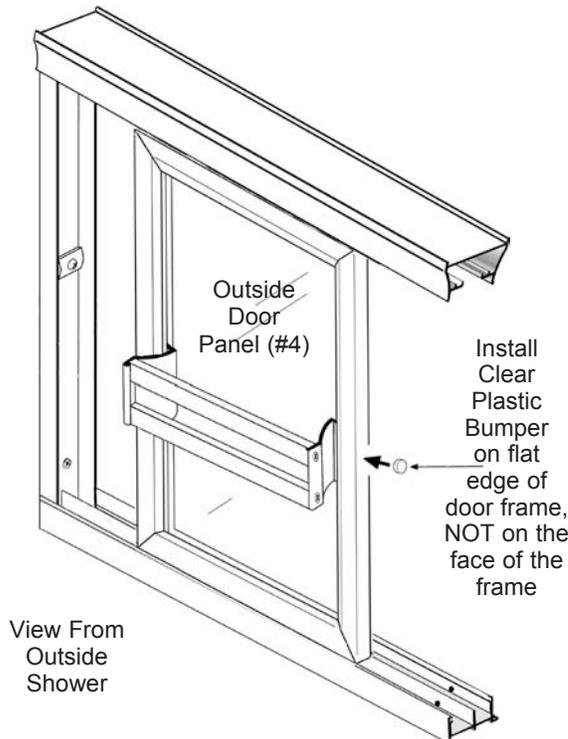

Figure 8
To avoid damage to the finish of the Handle (#13) on the Inside Door Panel (#5) and the edge of the Outside Door Panel (#4), install Clear Plastic Bumper (#19) so that the frame of the Inside Door Panel (#5) and Handle (#13) on the Outside Door Panel (#4) do not make contact. You will use the Clear Plastic Bumper (#19) to protect these parts. See Figure 8.
- B. On the Outside Door Panel (#4) thoroughly clean the surface of the innermost edge of the Side Rail (#6). Peel the protective backing off of the Clear Plastic Bumper (#19) and place it on the edge of the Outside Door Panel (#4), midway up on the door as shown in the IPB drawing and Figure 8.